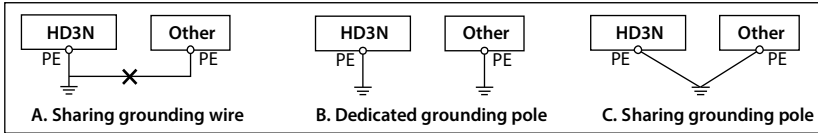

Figure 4-16 Grounding method
Do not share the grounding wire with other devices (A). HD3N can share grounding pole with other devices (C). It achieves the best effect if HD3N and other devices use dedicated grounding poles (B), as shown in Figure 4-16.